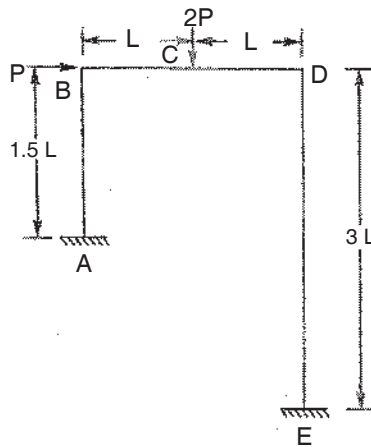

Fig. 9
Q. 22. Find out the fully plastic moment in the portal frame as shown in Fig. 9. The frame has uniform cross section throughout. For what value of L sway mechanism M_p will be greater than the combine mechanism M_p .